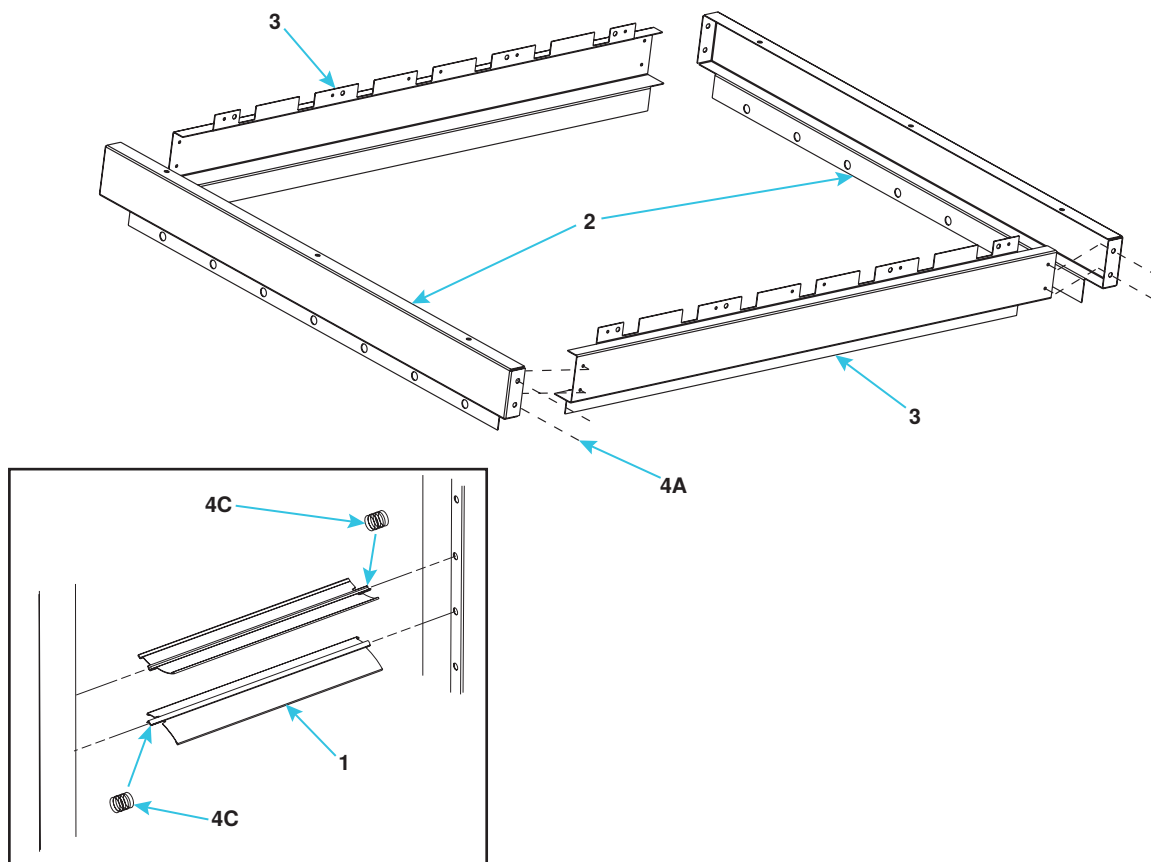

Figure 1. Four-Way Louver Assembly
*See Figure 1 .
Install the vertical louver kit as follows. Item numbers in parentheses refer to Figure 1.